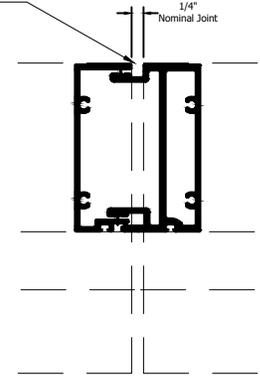

Fig.37.1
- J. Head and sill members are to be cut to be aligned with the back of the Expansion SSG verticals members. See **Fig. 37.1**